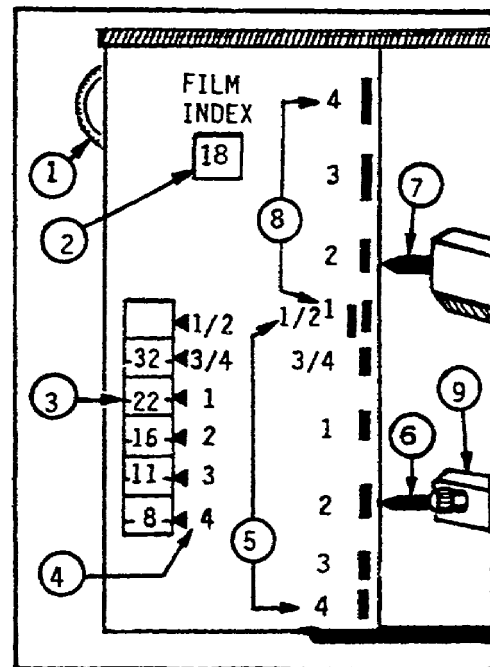

Figure 1-10. Exposure and Magnification Controls.
(1) To select the correct aperture, adjust the focus and magnification. Read the numbers at the lens carriage ⑥ and camera carriage ⑦ pointers (fig. 1-10). In this case it reads 2. Go to the aperture window ③ and read the f/stop opposite 2. It shows f/16.